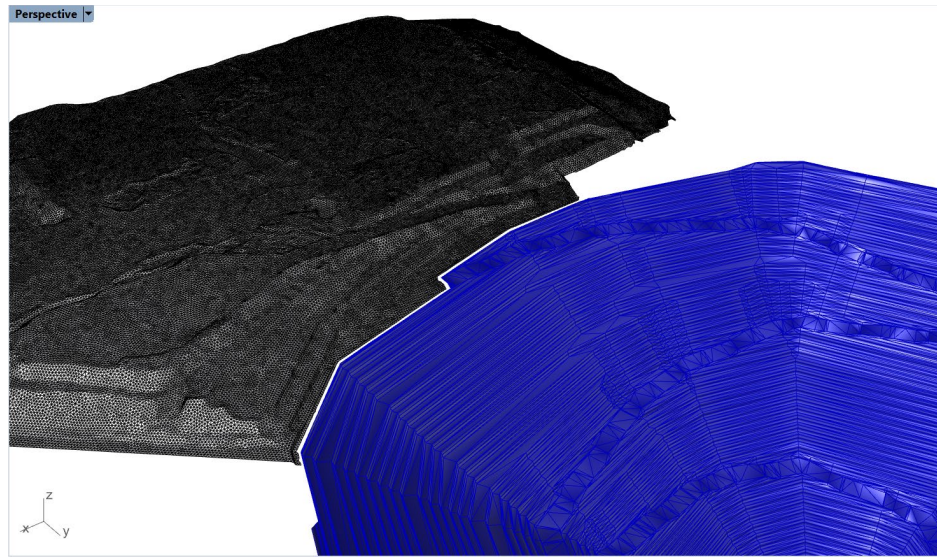

Figure 79: A gap between the pit and pit dump meshes.
13. Unhide the rest of the dump mesh with the **_Show** command. First select the remaining thin layers of faces and add the main pit dump mesh to the selection. Type the **_Join** command to join all meshes. Now a small gap between the pit and the dump meshes can be clearly visible as in Figure 79 (turn on “Pit” layer to check).